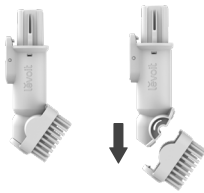

Figure 1.4
- Press button remove the brush head to use the fur removal tool which cleans pet hair on fabric and carpet. [Figure 1.4]